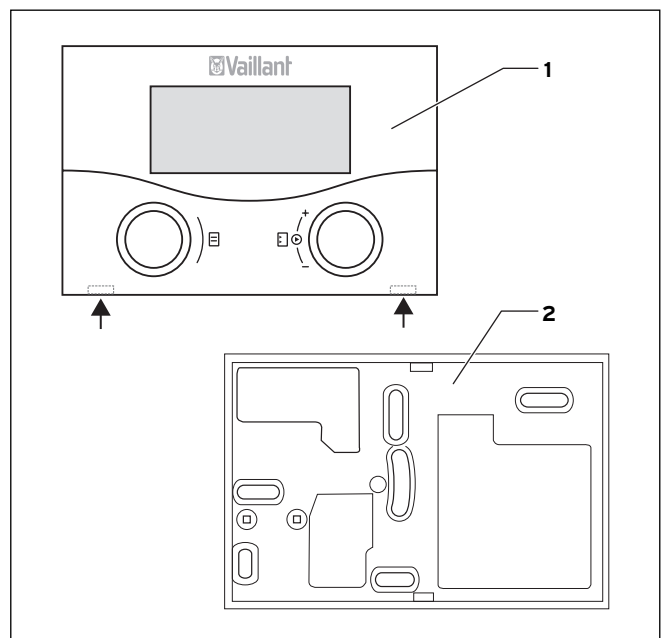

Fig. 5.1 Removing the VRC 430f controller
⇒ Pull the controller (1) off the wall socket (2). This can be done by pushing a screwdriver into the two retaining straps (see Fig. 5.1 arrows).